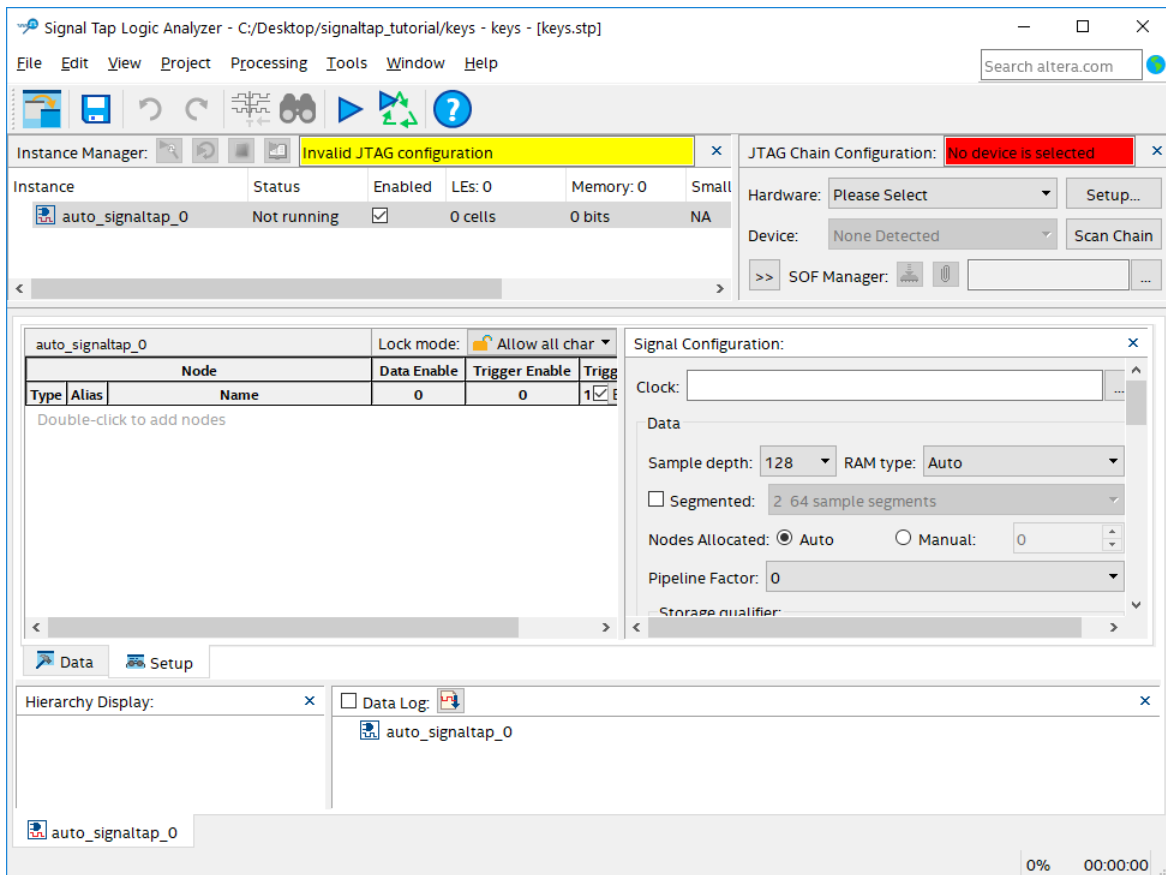
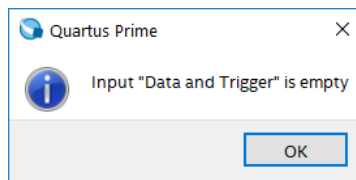
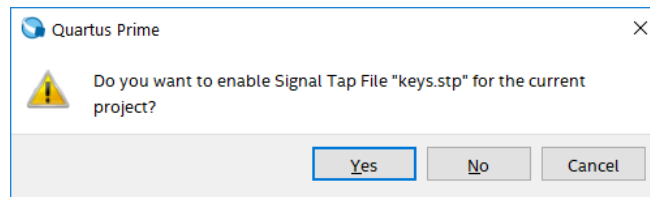

Figure 3. The SignalTap window.
Figure 4. Click OK to this dialog.
Figure 5. Click Yes to this dialog.
2. The SignalTap window with the Setup tab selected is depicted in Figure 3. Save the file under the name *keys.stp*. In the dialog box that follows (Figure 4), click OK. For the dialog "Do you want to enable SignalTap file 'keys.stp' for the current project?" click Yes (Figure 5). The file *keys.stp* is now the SignalTap file associated with the project.